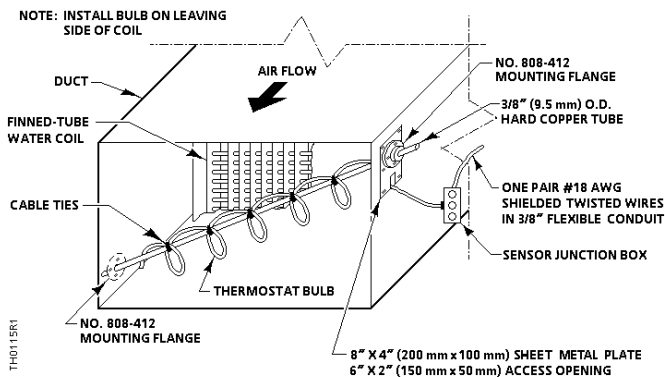

Figure 1. Duct Sensing Element Mounting Arrangement, Option A.
Figures 1, 2 and 3 show the sensing element arrangements. They provide the fastest response when the element is exposed to cold temperatures. Figure 1 shows the most practical mounting arrangement; it does not require inside access to the duct. The other sensing element arrangements require inside access to the duct.
Required for limited access duct mounting, Option A (Figure 1):
The duct sensing element is used to detect temperature stratification in the duct. For proper operation, be sure to mount the sensing element at an angle, as shown in Figure 1.
1. Position one P/N 808-412 mounting flange on the opposite side of the duct (near the bottom) from where the 8 x 4-inch (200 mm x 100 mm) mounting plate is to be mounted. See Figure 1. Mark the four screw holes and the 1/2-inch (13 mm) center hole of the mounting flange.
5. Cut a vertical access hole 6 inches high x 2 inches wide (150 x 50 mm) (near the top of the duct) on the side opposite of the previously mounted mounting flange. See Figure 1. Mark and drill mounting screw holes for the sheet metal plate.